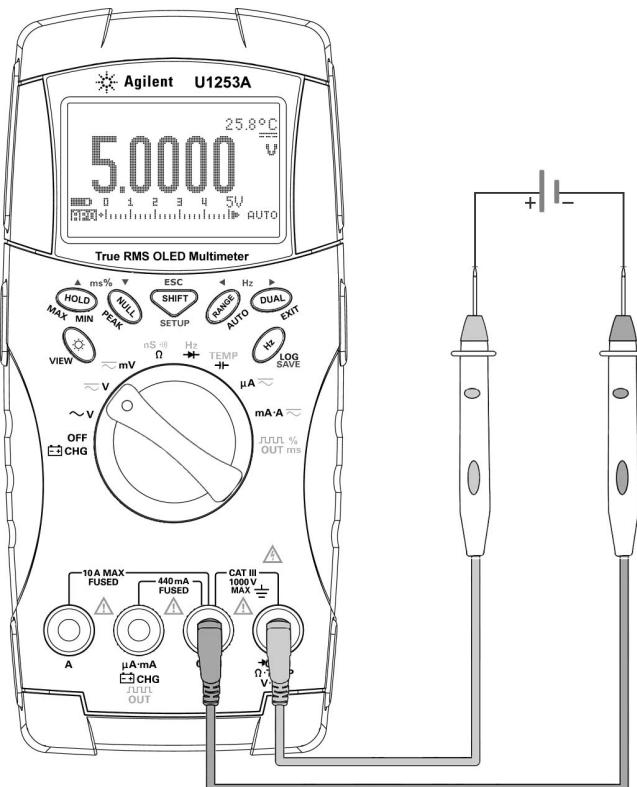

Figure 2-2 Measuring DC voltage
- 3 Connect the red and black test leads to input terminals **V.mV (red)** and **COM (black)** respectively (refer to Figure 2-2).